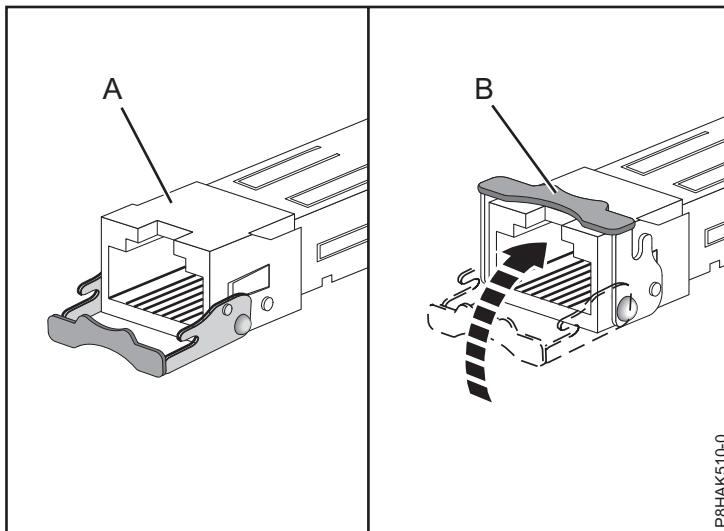

Figure 33. Replacing SFP transceivers in the adapter
- c. With the latch **(B)** in the open position, push the latch by rotating it up and toward the card as shown in Figure 33 on page 48.